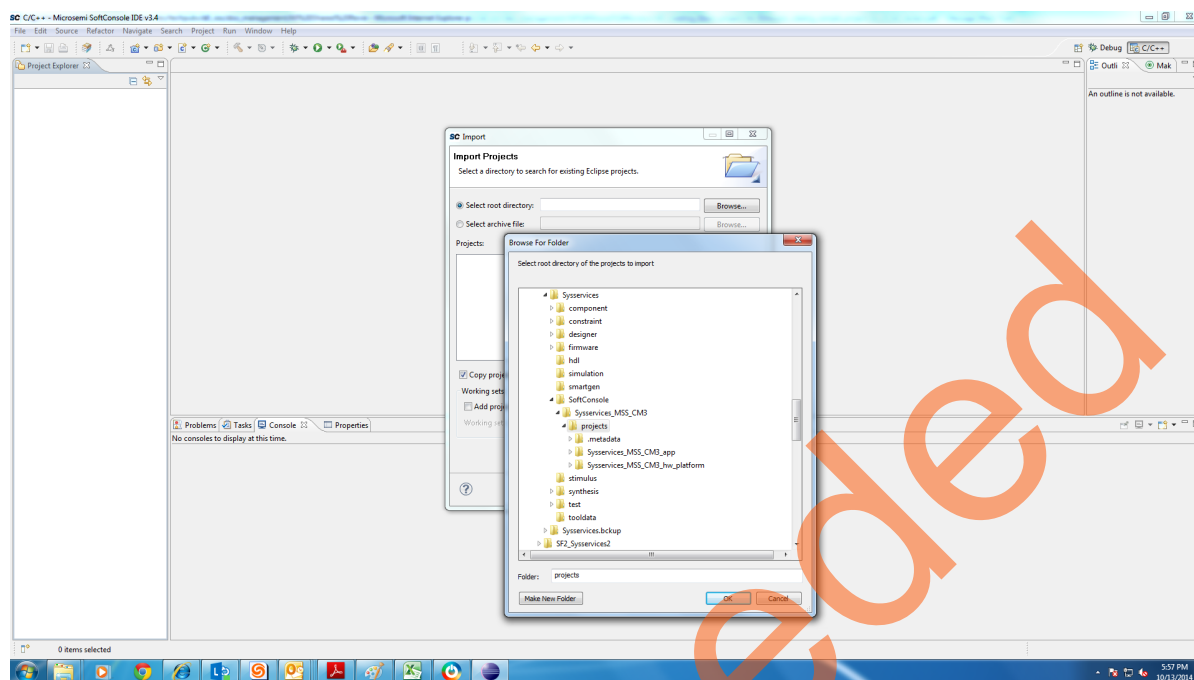

Figure 26 • Selecting System Services
5. Browse through the Syservices projects folder and select it as shown in Figure 26.